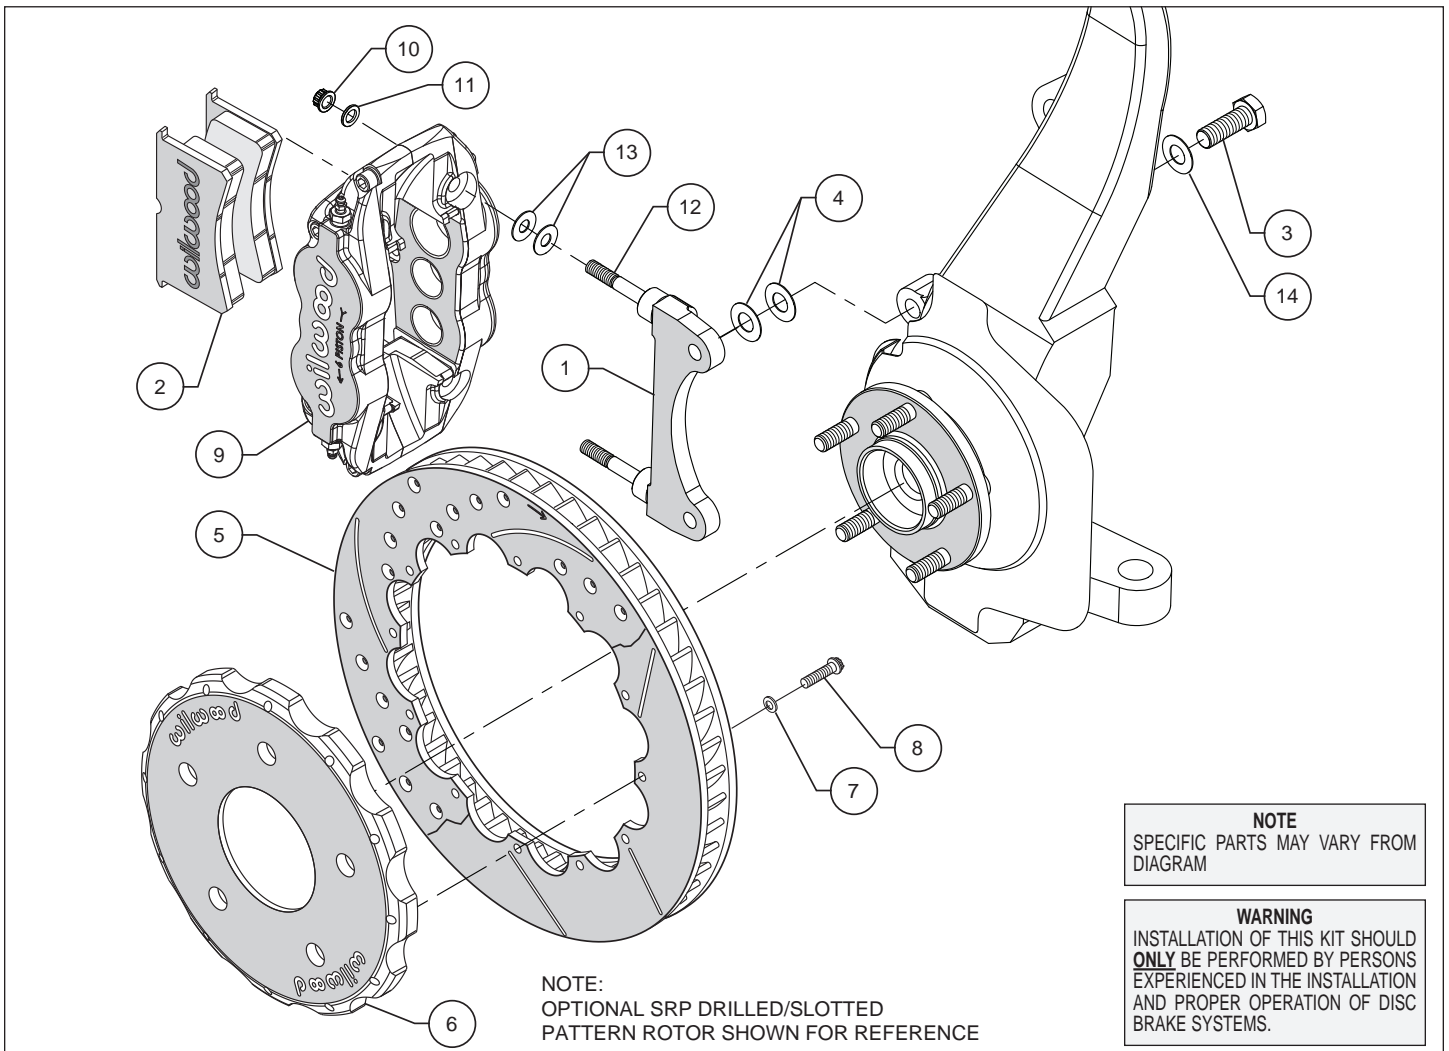

Figure 1. Typical Installation Configuration
**Assembly Instructions** (numbers in parenthesis refer to the parts list and Figure 1 on the preceding pages):
•The caliper mount bracket (1) should initially be installed with clean, dry threads on the mounting bolts. Orient the bracket as shown in Figure 1 and Photo 1, and install using washer (14) and bolts (3). Initially place two additional shims (4) on each bolt between the bracket and upright, Figure 1. Temporarily tighten the mounting bolts. **NOTE:** The bracket must fit squarely against the mount bosses on the upright. Inspect for interference from casting irregularities, machining ridges, burrs, etc. Later, after the caliper alignment has been checked, the mount bolts will be secured using red *Loctite*® 271.
•Orient the rotor (5) and the hat (6) as shown in Figure 1 and Photo 2. Attach rotor to hat using bolts (8) and washers (7). Using an alternating sequence, apply red *Loctite*® 271 to the threads and torque bolts to 155 in-lb. For an added measure of security, the bolts may be safety wired using standard 0.032 inch diameter stainless steel safety wire as shown in Figure 4.
•**NOTE:** This kit contains distinct right and left hand calipers that must be mounted in a specific direction, as described below. Lubricate the caliper mounting studs (12) with lightweight oil. Initially place two .035" thick shims (13) on each stud as shown in Figure 1 and Photo 3. Mount the caliper (9) onto the bracket (1) using lock nuts (10) and washers (11), Figure 1 and Photo 4. Ensure that the caliper is mounted so that the largest pistons are at the rotor exit end of the caliper, in relation to the direction of rotor rotation. Temporarily tighten the lock nuts and view the rotor through the top opening of the caliper. The rotor should be centered in the caliper, Photo 5. If not, adjust by adding or subtracting shims (4) between the bracket and the upright. Always use the same amount of shims on each of the two mounting bolts. Once the caliper alignment is correct, remove the bracket mounting bolts one at a time, apply red *Loctite*® 271 to the threads, and torque to 75 ft-lb.